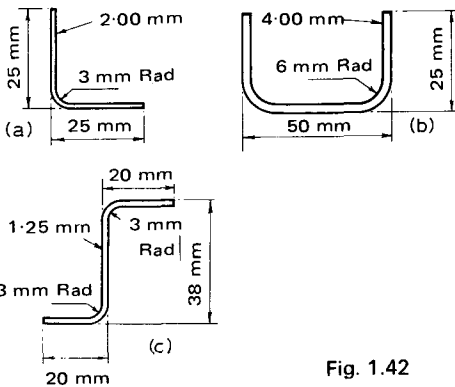

Fig. 1.42
16. Calculate the width of strip needed to make each of the sections shown in Fig. 1.42.